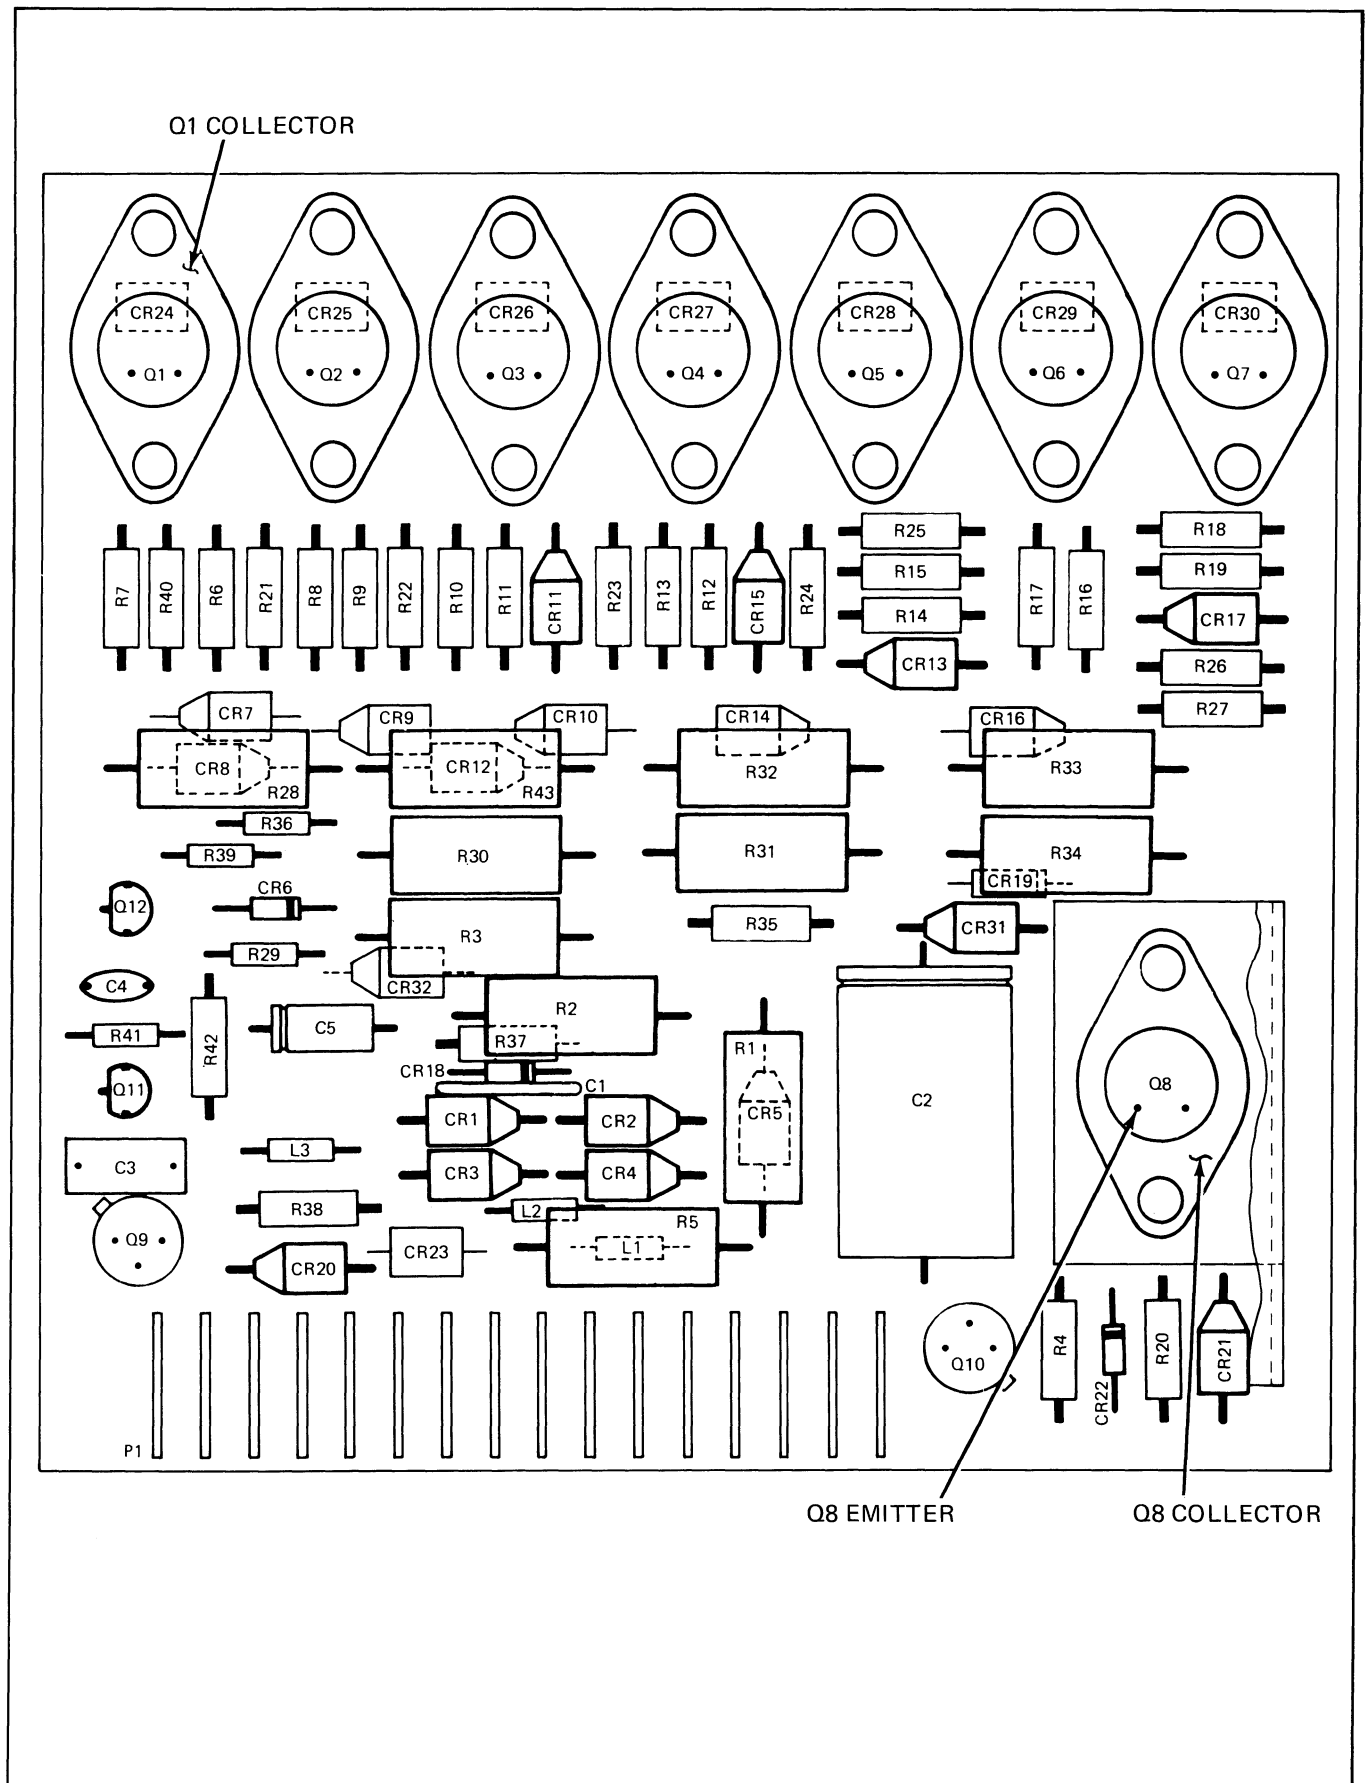

Figure 4-23. Series Pass Element Test Points
4. Connect a voltmeter between the collector of Q1 and the emitter of Q8 on the Series Pass Element. (Refer to Figure 4-23.)